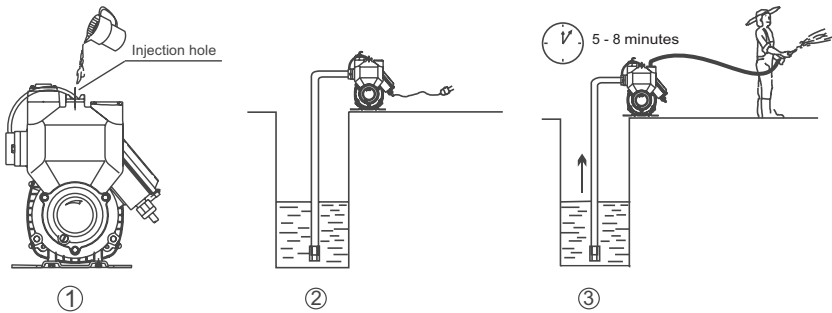

Figure 4
- Fill the pump with water from the discharge valve (Fig. 4).